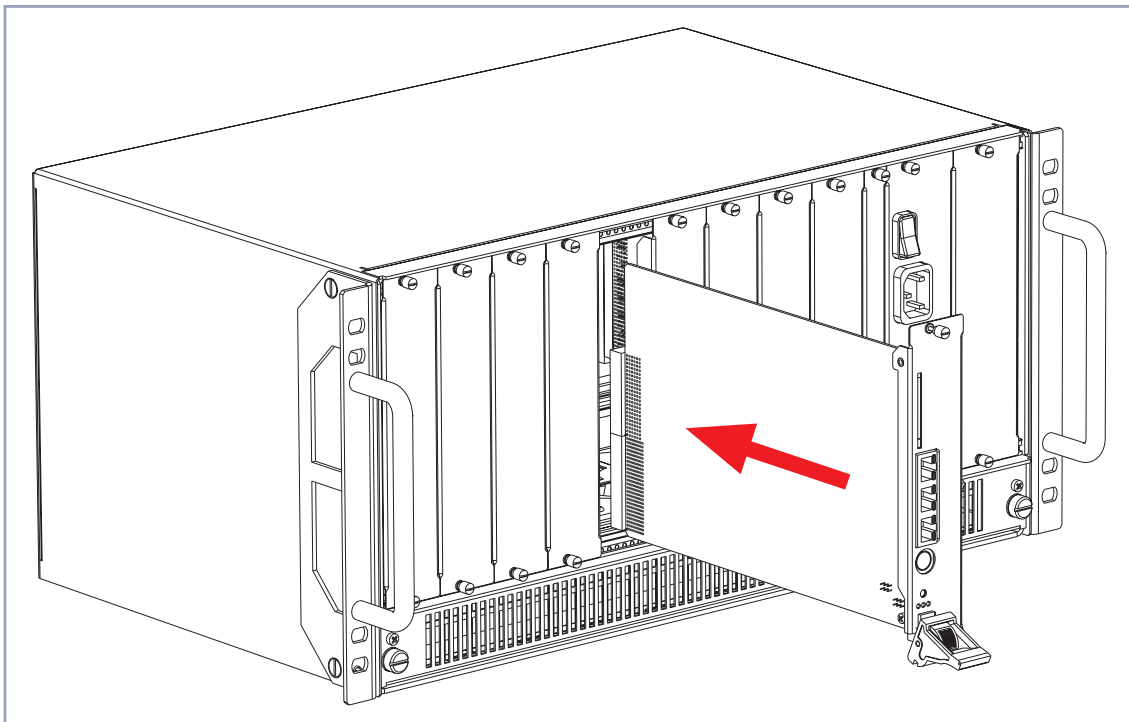

Figure 4-4: Inserting an expansion card
- Push the expansion card further until it reaches the slot connector (see figure 4-4, page 36).